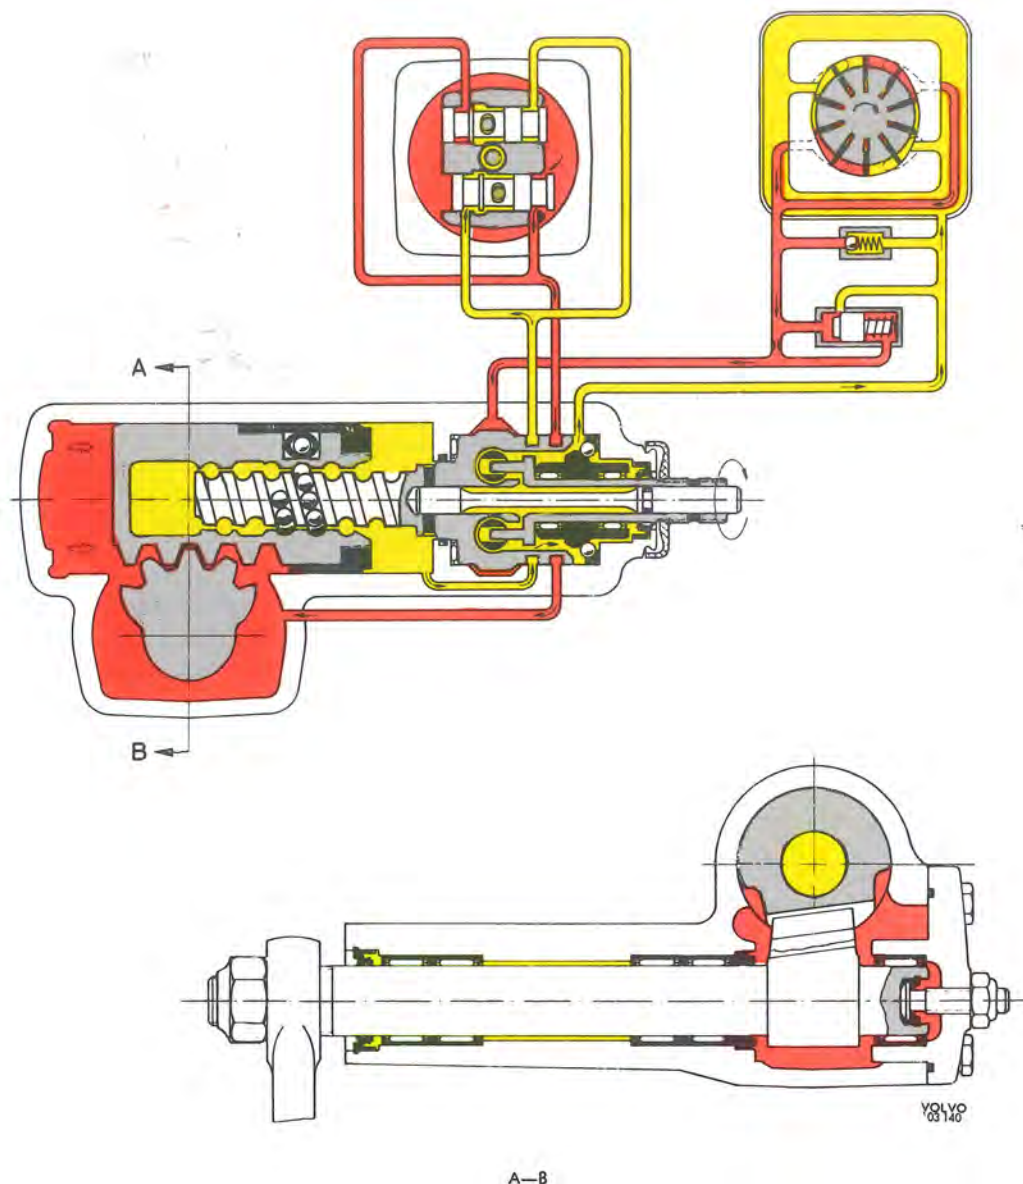

Fig. 6-48. Function, right-hand turn
The sector shaft (20) is journaled in the steering housing and side cover by means of needle bearings, see Fig. 6-48. Sealing between the valve housing and the upper section of the housing as well as between the intermediate piece and worm is catered for by O-rings and plastic rings.
Turning the steering wheel to the right (see Fig. 6-48) will screw the piston (2, Fig. 6-46) to the right on the figure. The valve piston (10) is displaced to the right and permits oil under pressure to pass to the radial groove (18) of the valve housing and from there on to the left-hand side of the cylinder. Oil under pressure also flows to the return groove (7) which, however, is closed so that oil pressure on the left-hand side of the operating piston (2) rises and facilitates the turning of the lever shaft. Oil at the right-hand section of the cylinder is pressed by the piston via the radial groove (19) through the return groove (6) of the valve piston (10) back to the oil container (13).
The space in the intermediate piece is oval, see Fig. 6-48. This permits the area between the rotor, the wall of the intermediate piece and two of the vanes to alter when the rotor rotates. When a couple of vanes are moved from the